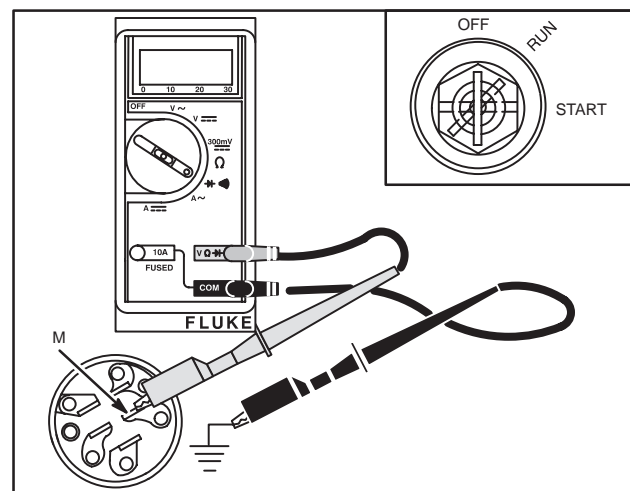

Fig. 37 – Checking Stop Switch Circuit
1. Connect one meter lead to stop switch terminal (M) and other lead to a good ground. If key switch is mounted to an insulated panel, use ground terminal (G), Fig. 37.
3. With key in "RUN" and "START" position there should be no continuity, Fig. 37.